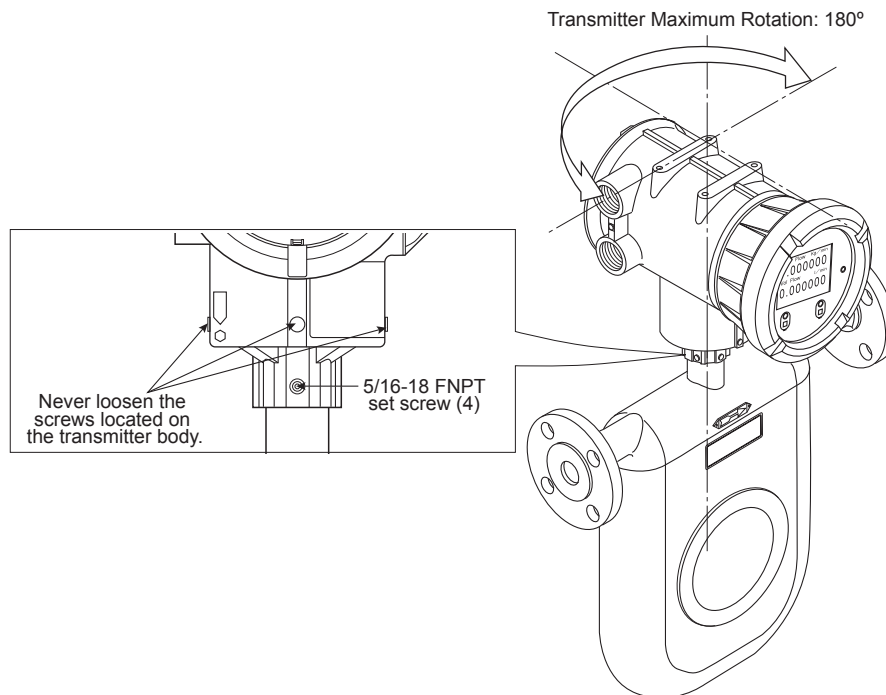

Figure 5.23—Changing the transmitter orientation
2. Using a hex wrench, loosen the set screws in the transmitter adapter. See Figure 5.23 (5/16-18 FNPT hex socket head screws at four places).
CAUTION The transmitter may be rotated over an 180° arc as shown in Figure 5.23. Rotating the transmitter beyond 180° will twist the harness from the sensor unit, damaging the equipment.